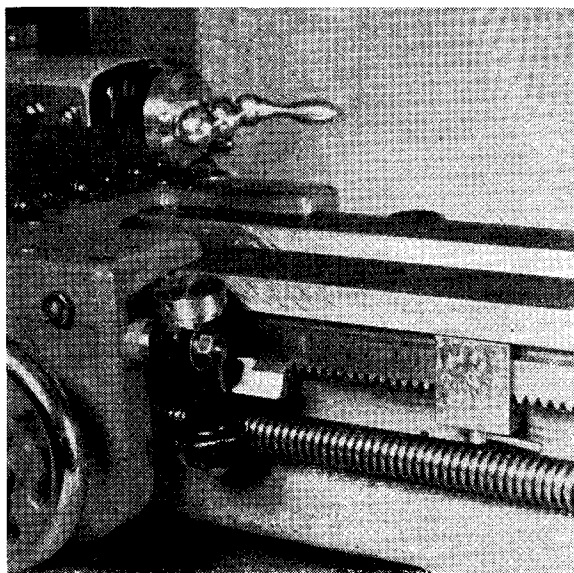
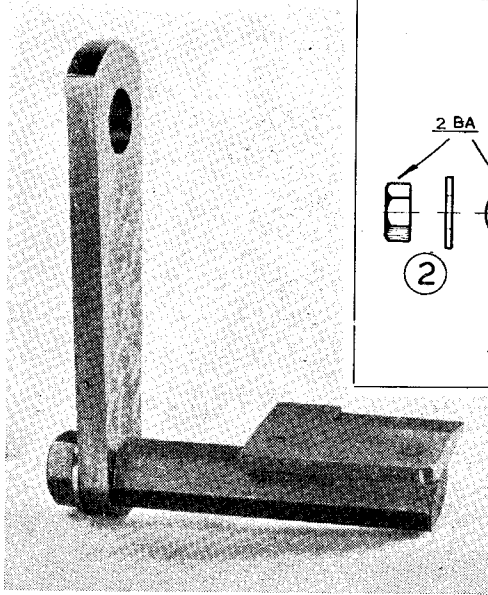
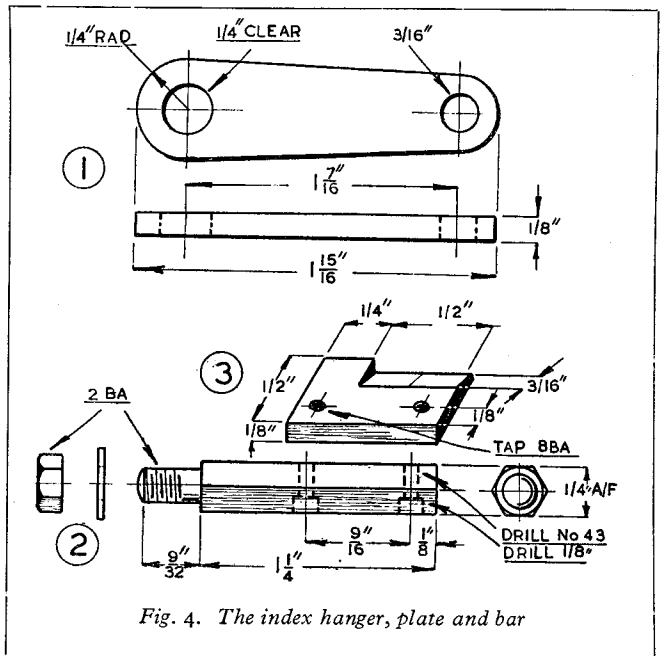

Fig. 1. Saddle index fitted to the Myford lathe
Fig. 3. The scale index
Fig. 4. The index hanger, plate and bar
The photographs Figs. 1 and 2 illustrate how this scale has been fitted to the Myford M.L.7 and Myford-Drummond lathes respectively.
The index fitted to the M.L.7 lathe can be seen in Fig. 1, and its appearance when detached from the saddle is illustrated in Fig. 3. In the present case, the modified form of thread indicator, previously described, is fitted, and the hanger carrying the index plate replaces the standard fibre washers and is thus secured in position when the thread indicator clamp-nut is tightened.
As shown in the photograph, Fig. 3, the index member consists of three main parts: a vertical hanger (1), a hexagon carrier bar (2), and an index plate (3). The working drawings for these components are given in Fig. 4.